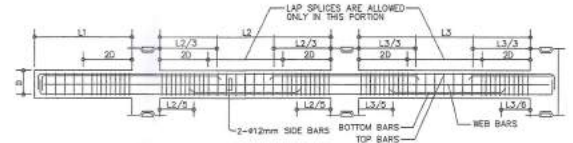

FIG. B-1
- TYPICAL BARS BENDING AND CUTTING DETAILS FOR BEAMS SHALL BE AS SHOWN IN FIG. B-1.